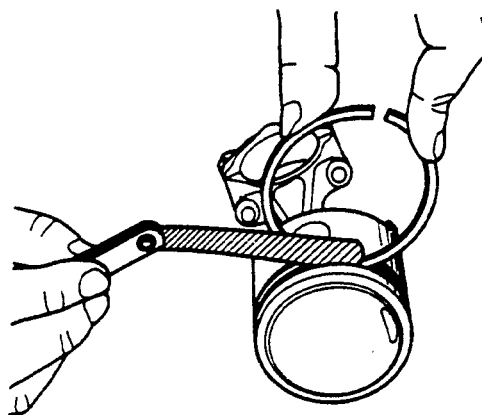

FIGURE 9-46. MEASURING PISTON RING TO GROOVE CLEARANCE
2. Check the clearance between the piston ring and ring groove (Figure 9-46). If the service limit is exceeded, replace the ring and/or piston.